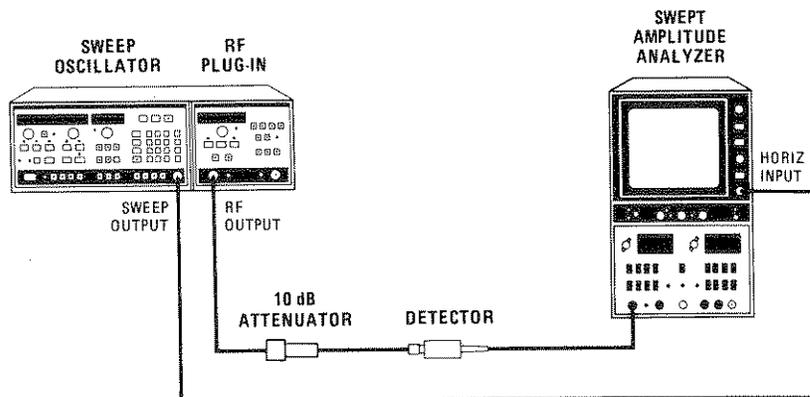
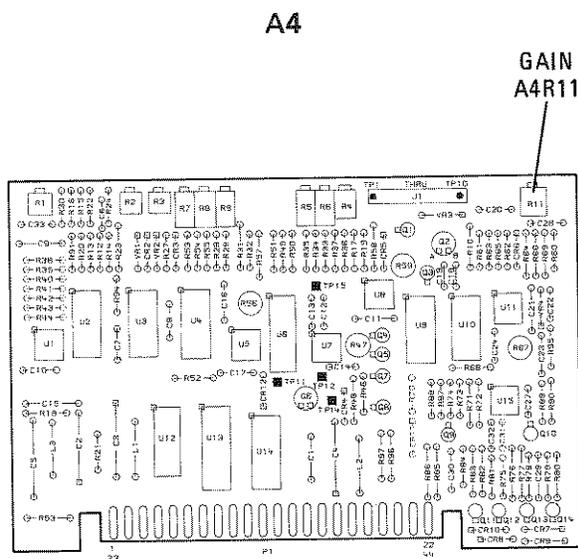
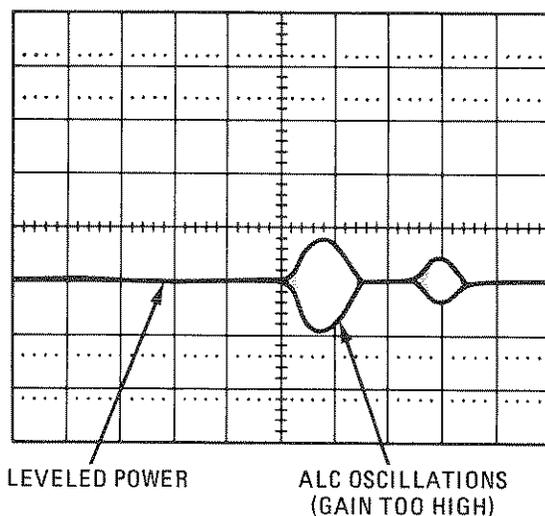

Figure 5-27. ALC Gain Adjustment Test Setup
Figure 5-28. ALC Gain Adjustment Location
Figure 5-29. Leveled Power Trace Showing ALC Oscillations
1. Connect equipment as shown in Figure 5-27. Select 8350A  $\square$  MOD. Sweep the full range of the plug-in at minimum leveled power. Observe the RF signal on the 8755C display. Adjust A4R11 (GAIN) (Figure 5-28) to increase the gain of the Main ALC amplifier until oscillations begin to occur. (See Figure 5-29.) Then, reduce gain just enough to eliminate oscillations.